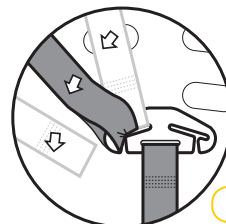

Figure 1.4
- The shoulder harness straps go directly from the shoulder slot holes to the spreader plate. Thread each shoulder harness strap back onto the metal spreader plate through the gate (see Figure 1.4).